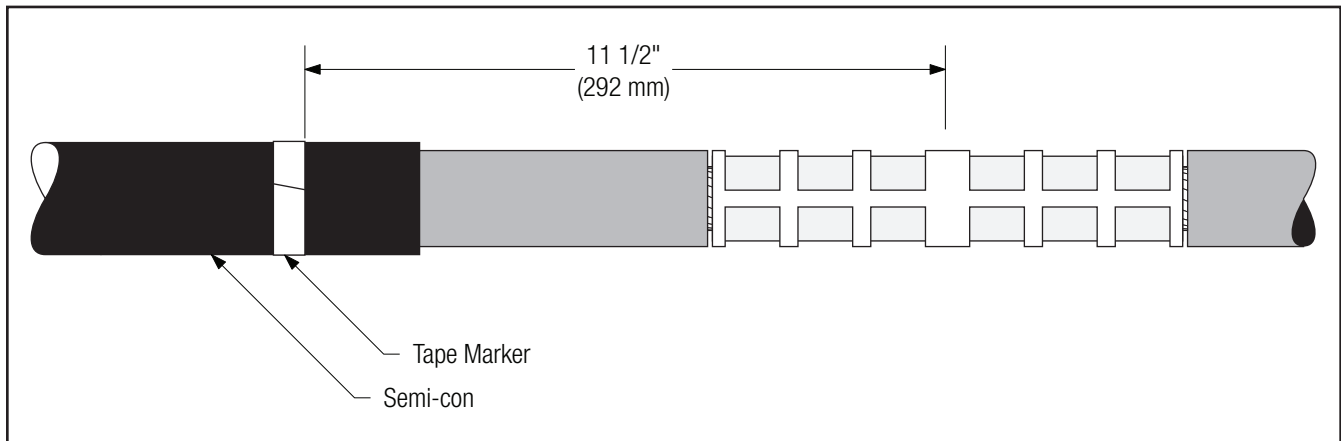

Figure 17
- 5.1 Apply a tape marker to semi-con insulation shield on cable which does not contain splice. Measure 11 1/2" (292 mm) from center of connector (*Figure 17*).